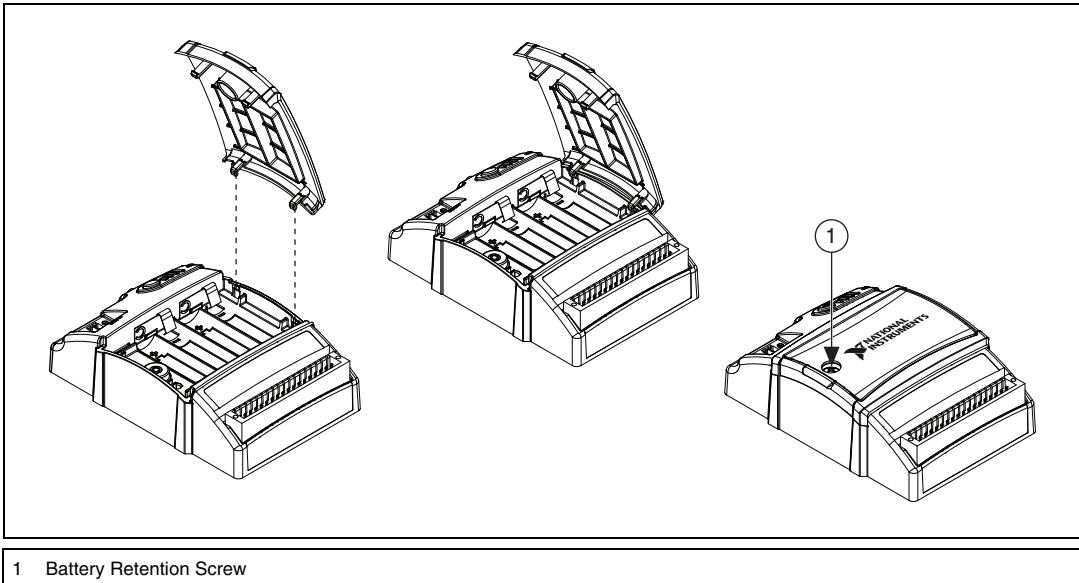

Figure 10. NI WSN-3214 Battery Compartment
1. Loosen the battery compartment retention screw and remove the compartment cover, as shown in Figure 10.